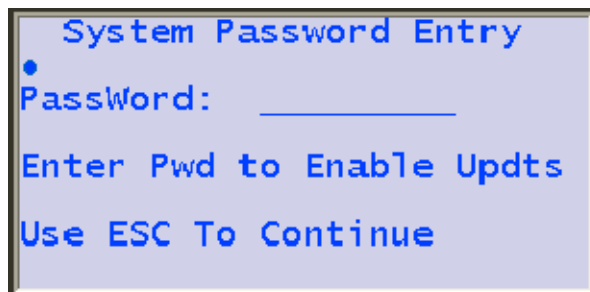

Figure 2-5. Password Entry Screen
- (1) Press the FNC key.
- (2) Press the NAV key. The AIS Main System Menu screen will appear.
- (3) Select Logon, and press the ENT key. The System Password Entry screen will appear (Figure 2-5).
- (4) Press the ENT key, and enter the password, and press the ENT again.
- (5) Press the ESC key to return to the AIS Main System Menu screen.